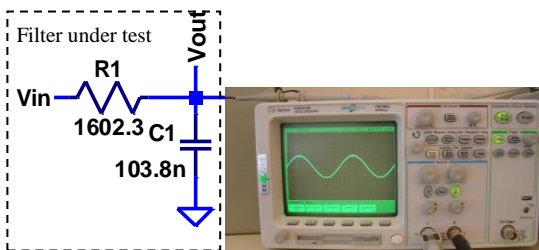

Fig. 1. Circuit 1. R_1 and C_1 form a low-pass filter.
Fig. 1 shows the low-pass filter circuit diagram under test. An input voltage applied to resistor R_1 produces an output voltage V_{out} across C_1 . An Agilent 33120 Function Generator supplies 1 Vrms (V_{in}) at frequencies between 10 Hz and 50 kHz, and an Agilent 54622 Oscilloscope measures V_{out} . An Agilent 34401A DMM (Digital Multimeter) measures $R_1 = 1603.2 \Omega$, and a GenRad 1659 RLC Bridge measures $C_1 = 103.8 \text{ nF}$ at 1 kHz.
* Fig. 1 shows the circuit diagram for
Fig. 2. Frequency response for a low-pass filter. The squares represent measured oscilloscope data using the Quick Measure peak-to-peak function. The triangles represent measured oscilloscope data using the quick measure RMS function. The solid curve shows the expected low-pass RC circuit response from PSpice simulation results based on Table I and Fig. 1.